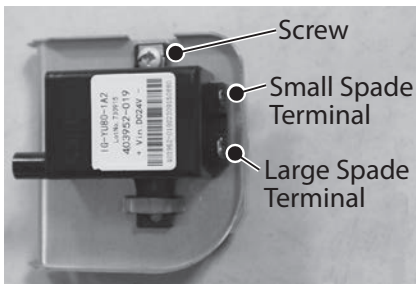

Figure 33 - Disconnecting ignitor assembly
- 9 Disconnect the two spade terminal connections at the back of ignitor assembly. See Figure 33.